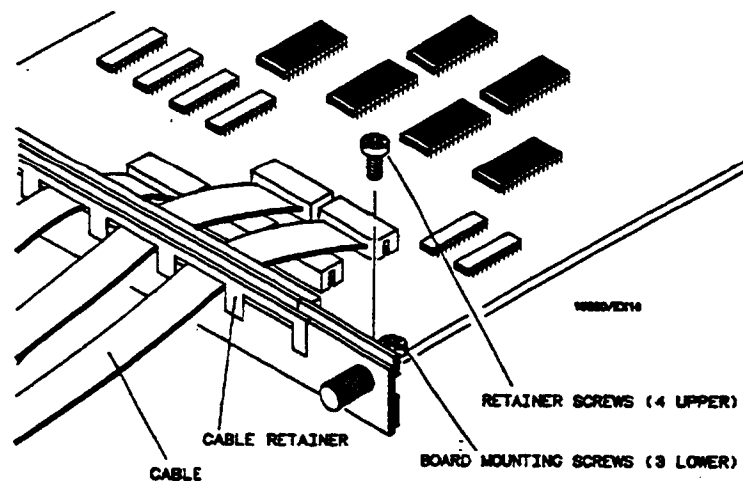

Figure 6-18. Retainer And Screws
- f. Using a No. 10 torx  driver, remove four screws that hold cable retainer onto card. See figure 6-18.